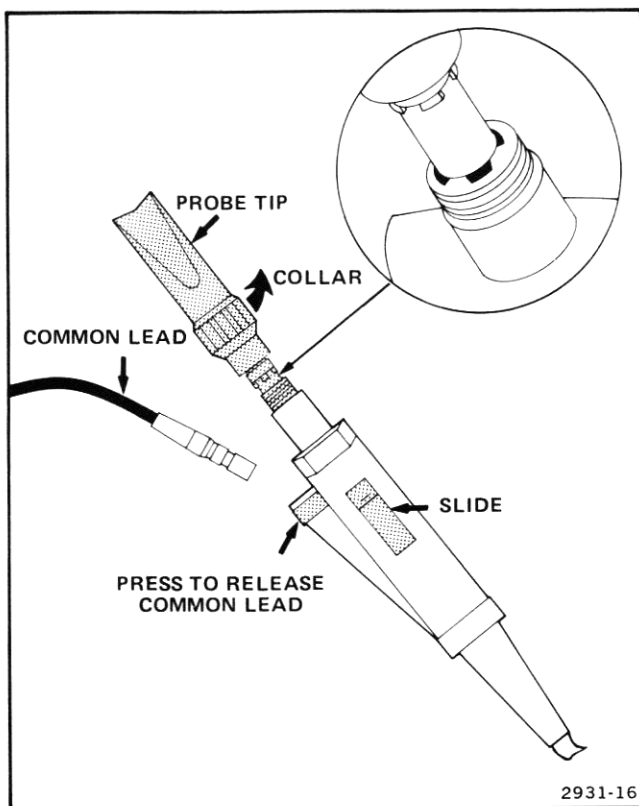

Figure 2-7. Setting the 1500-V probe tip angle and replacing the common lead.
The angle of the 1500-V probe tip may be rotated in 90° increments, if necessary, to make it easier to attach the probe to the circuit under test. To change the probe tip angle, refer to Figure 2-7 and perform the following steps:
5. Move the slide forward to the position shown Figure 2-7 and verify that there is approximately one-eighth inch clearance between the indexing guides on the shaft of the probe tip and the threaded portion of the probe body. If necessary, loosen the probe tip to achieve the correct clearance.
To replace the common lead on the 1500-V Probe, press and hold the release point shown in Figure 2-7. Pull the lead out of the probe body and remove pressure from the release point. Install the new common lead by pushing the lead end into the probe body until an audible click is heard.